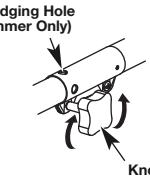

Fig. 4
1. Turn the knob counterclockwise to loosen (Fig. 4).
3. Turn the knob clockwise to tighten (Fig. 4).
For decorative edging with the line head trimmer attachment, lock the release button of the attachment into the 90° hole (Fig. 4).